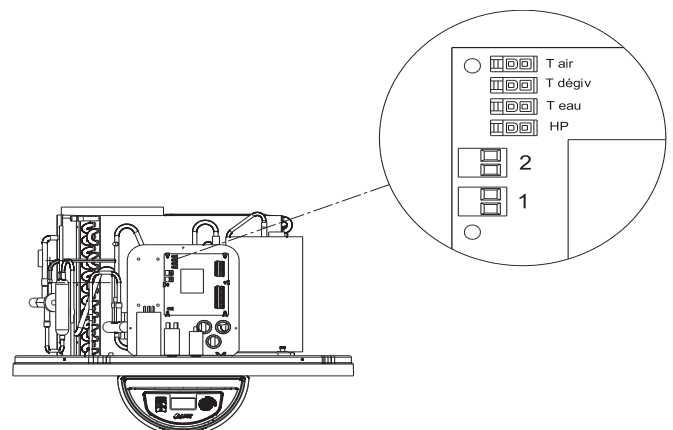

Figure 9: Detailing the electricity provider contact on the electronic board
- If the PV function regulator has two control contacts, connect them to Entrée 1 and 2 on the electronic board (see Figure 9).